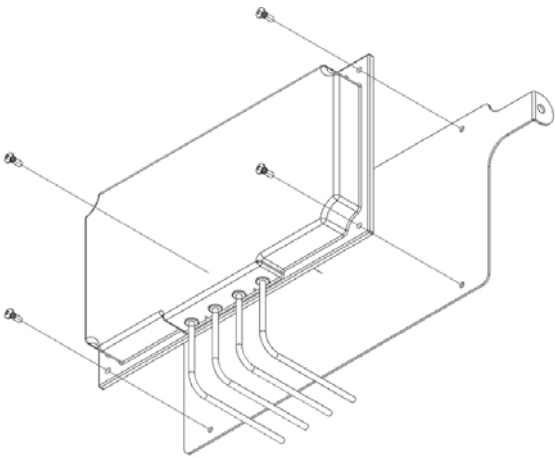

Figure 3
Step 3 – Attach antenna(s) using the #8-32 x 7/16 screws provided (Figure 3). Attach the antenna mount(s) with the provided screws. to